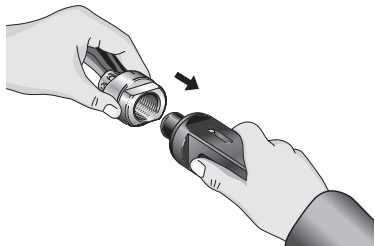

Figure 8 – Mounting Fitting To Expander
3. Place the threaded end of the fitting on the end of the expander. See *Figure 8*.